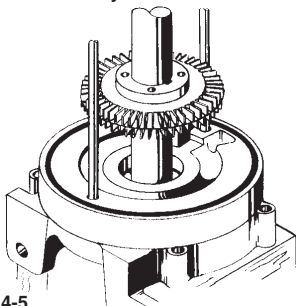

Figure 4-5
6. Slide an impeller (#11) onto the shaft (#17) and over the key (#23) nearest the drive end.(refer to figure 4-5) Place the impeller-shaft assembly into the ring, with the shaft extension down. If the blocking is the correct height, the shaft end should contact the bench at the same time the impeller covers the key.